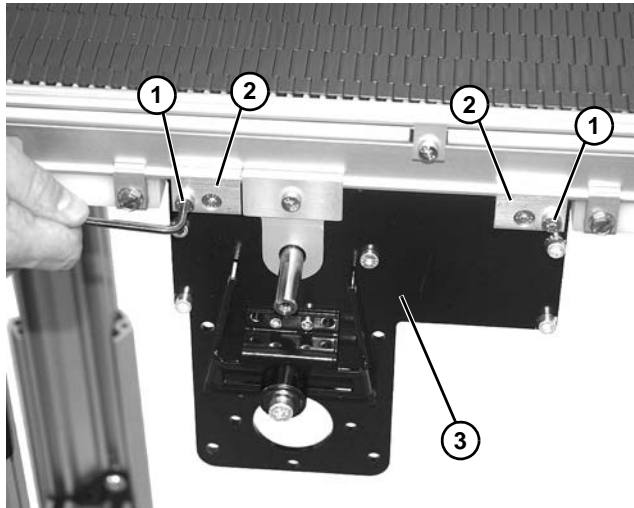

Figure 38
1. Loosen and remove two (2) fastening screws (Figure 38, item 1) and clips (Figure 38, item 2) on each side of conveyor to lower and remove center drive module (Figure 38, item 3).